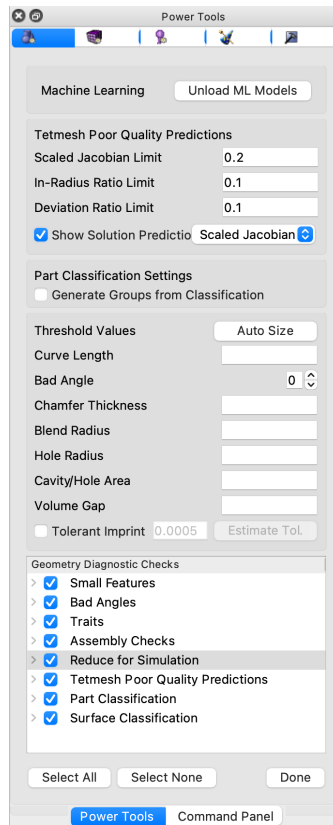

Figure 3. Options panel after loading ML models.
4. After the machine learning models are loaded, a variety of diagnostic options become accessible, as illustrated in Figure 3. Available diagnostics encompass "Reduce for Simulation," "Tetmesh Poor Quality Predictions," and classifications for "Parts" and "Surfaces." Furthermore, settings specific to ML-based diagnostics will also be made available for fine-tuning.